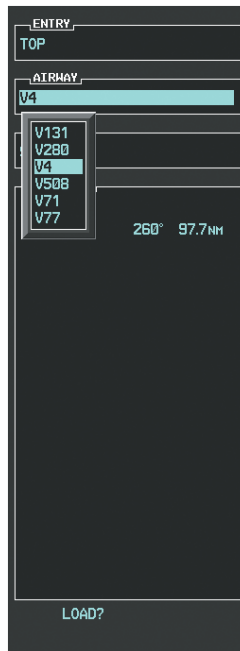

Figure 5-118 List of Available Airways for TOP
f) Press the **LD AIRWY** Softkey to display the list of available airways for TOP as seen in Figure 5-118.
g) Turn either **FMS** Knob to highlight V4 in the list as seen in Figure 5-118.